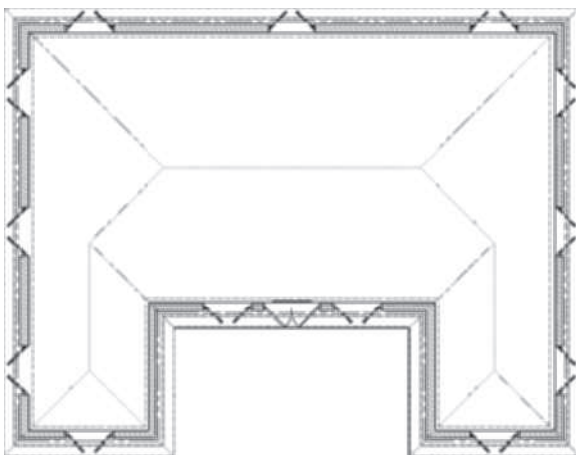

FIGURE 12.77 Windows added to floor plan
32. Select an existing double-casement window, right-click, and choose **Add Selected**. Verify that Position along wall = **Offset/Center** and that Automatic offset = **3'-0" [900]**. Place additional windows as shown in Figure 12.77. Save and close the drawing.